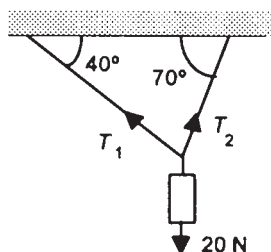

Figure 2.34 Problem 5
- 5 An object of weight 20 N is supported from the ceiling by two cables inclined at 40° and 70° to the ceiling (Figure 2.34). Determine the tensions in the cables.